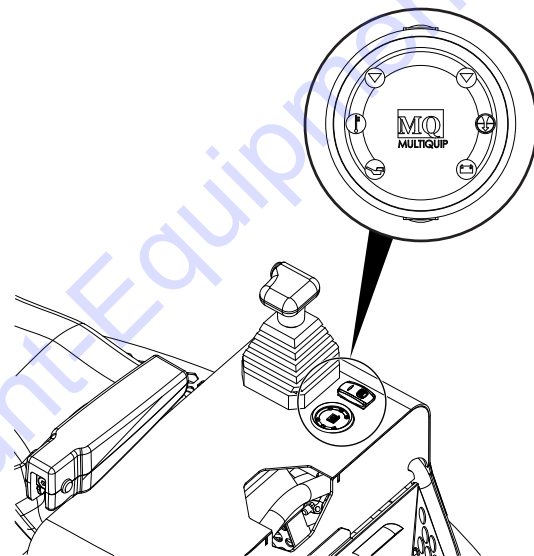

Figure 22. Oil Pressure/Charge Lamps
11. Verify that the oil pressure and charge lamps (Figure 22) are **ON**.